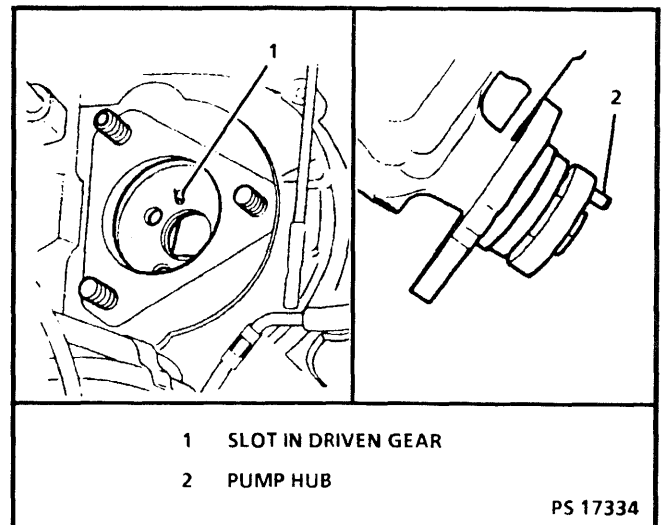

Figure 4-22 - Injection Pump Locating Pin
- Align the locating pin on the pump hub with the slot in the injection pump driven gear (Figure 4-22).